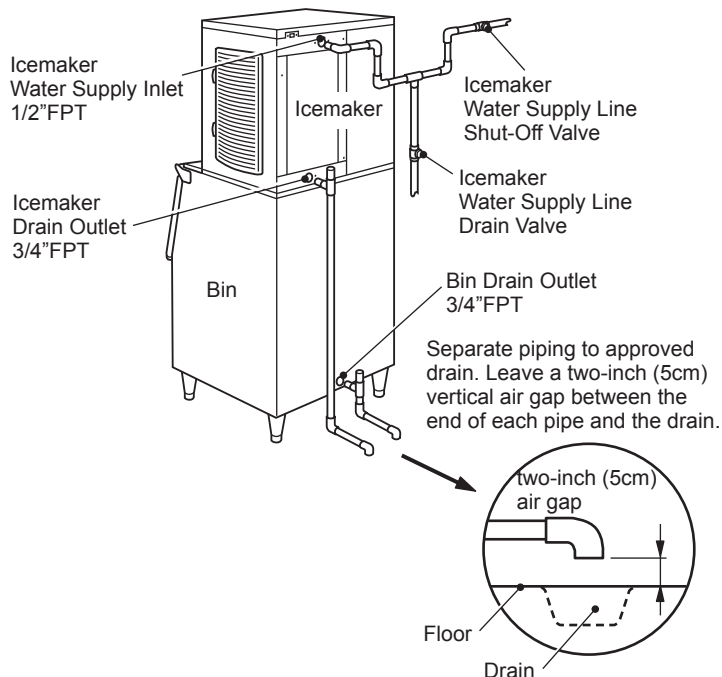

Fig. 6
- \* A vented tee connection is required for proper drain flow. See Fig. 6.
- \* The icemaker drain line must be run separately from the storage bin/dispenser unit drain line. See Fig. 6.